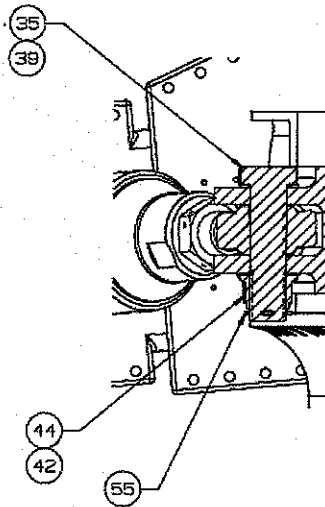
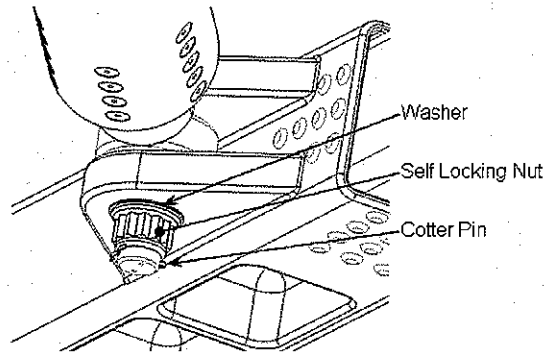

Figure 2-1
Figure 2-2
8. As shown in Figure 2-1, install the Diagonal Strut Assemblies to the STA VC by installing one (1) Washer, Flat P/N NAS1149E1632R, item 42; one (1) Washer, CSK, P/N NAS1587-16C, item 39; one (1) Nut, Self Locking, P/N NAS1805-16, item 44; and one (1) Pin, Clevis, VC, Diagonal Bracket P/N SDG39135744-003, item 35. Torque the nut 0 to 5 in-lbs (0 to .5 Nm) above locking torque after the nut bottoms out. Locking torque shall be 90 to 800 in-lbs (10.1 to 90.3 Nm). See Figure 2-2.
9. As shown in Figure 2-1, install other end of the Diagonal Strut Assemblies to the USS-02 by installing one (1) Washer, Flat P/N NAS1149E1632R, item 42; one (1) Washer, CSK, P/N NAS1587-16C, item 39; one (1) Nut, Self Locking, P/N NAS1805-16, item 44; and one (1) Pin, Clevis, USS-02, Diagonal Bracket P/N SDG39135744-002, item 52. Torque the nut 0 to 5 in-lbs (0 to .5 Nm) above locking torque after the nut bottoms out. Locking torque shall be 90 to 800 in-lbs (10.1 to 90.3 Nm). See Figure 2-2
10. Install the four (4) cotter pin, MS24665-306, item 55 in Figure 2-1 to all self locking nuts, item 44.